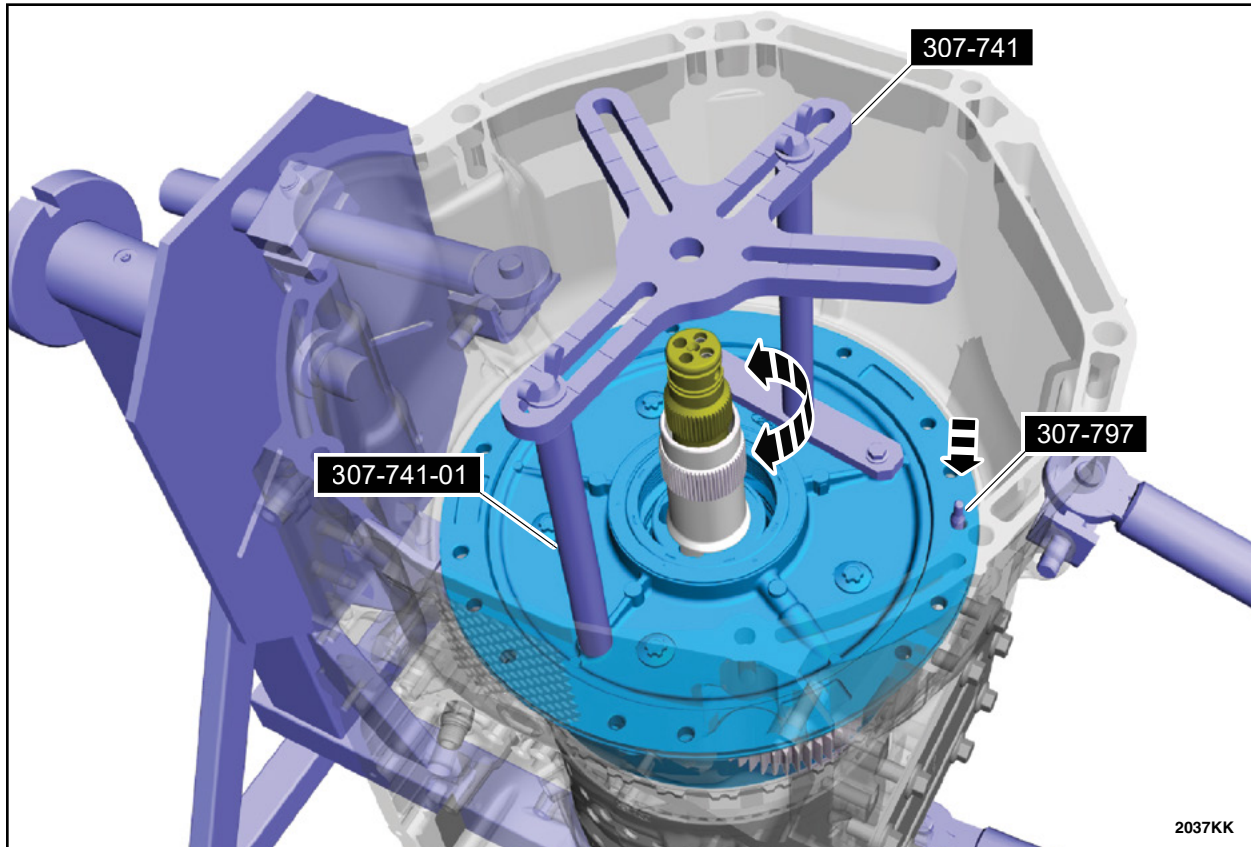

FIGURE 29
32. Using the special tools 307-741 and 307-741-01, install the front support into the transmission case. Rotate the input shaft while aligning the front support to the special tool guide pin 307-797. See Figure 29.